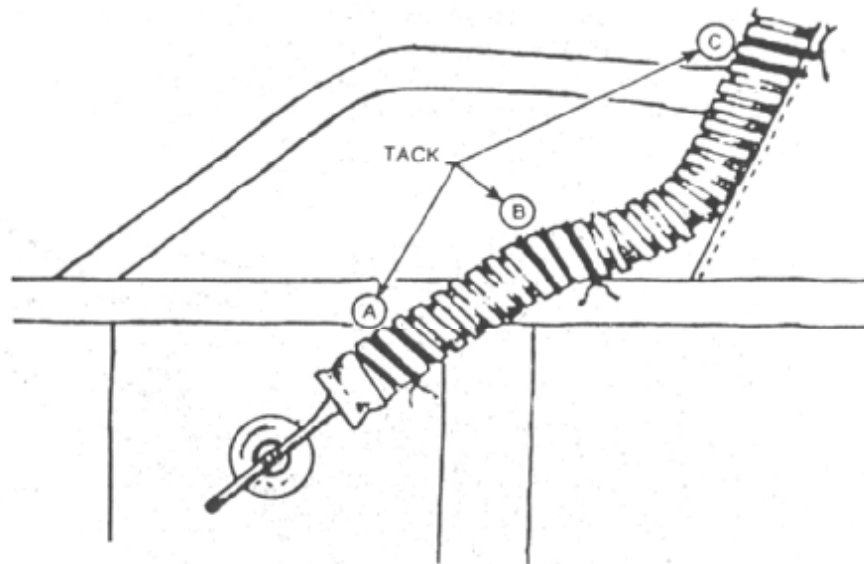

FIGURE 2
To insure consistent pull force regardless of the position of the rig, the modified attachment method (Fig. 2) should be installed on all SST's. To accomplish this:
1. Remove the tacking at the container end of the housing and remove the housing from the channel. (1) on the support piece (2) and remove the channel by cutting the stitches.
2. Position the housing as illustrated on Fig.2 when the housing is straight across the top of the container the end should line up with the centre line of the container.